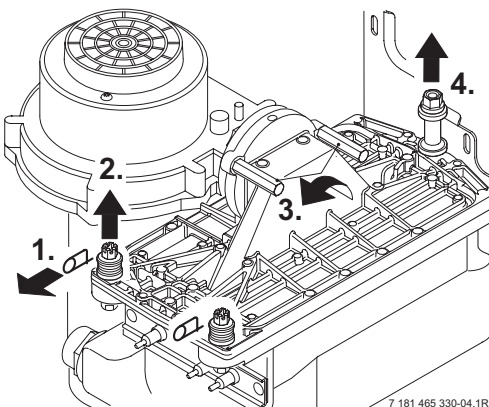

Fig. 53
- Remove the clips (1) and unscrew the two bolts (2). Refer to fig. 53.
- Unscrew and remove the two hexagon screws securing the fan (3).
- Slacken fully the rear securing bolt (4).